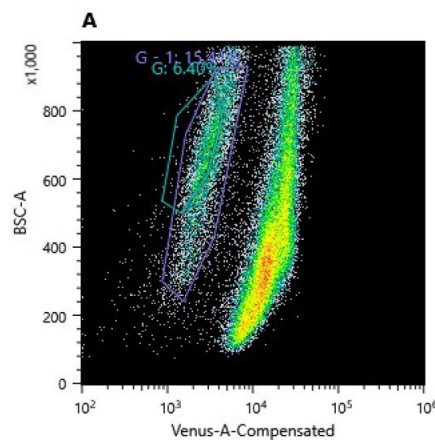
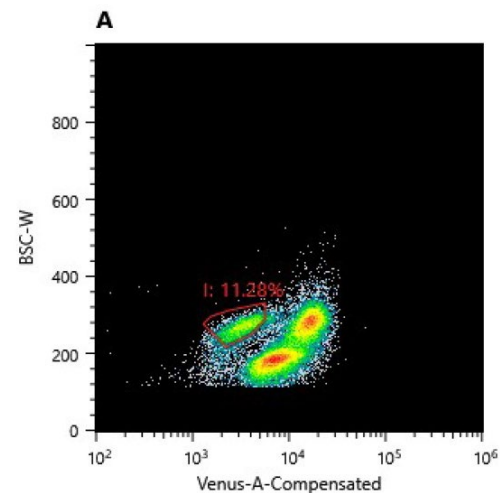

Figure 40
Figure 41
- a. Plot FSC-A/BSC-A vs Venus-A and gate around the left population (Figure 40) to sort only via YFP level OR FSC-W/BSC-W vs Venus-A and gate around the top left population (Figure 41) to sort with YFP levels and size (this is what I did, as I wanted cells arrested at checkpoint = budded and YFP-).